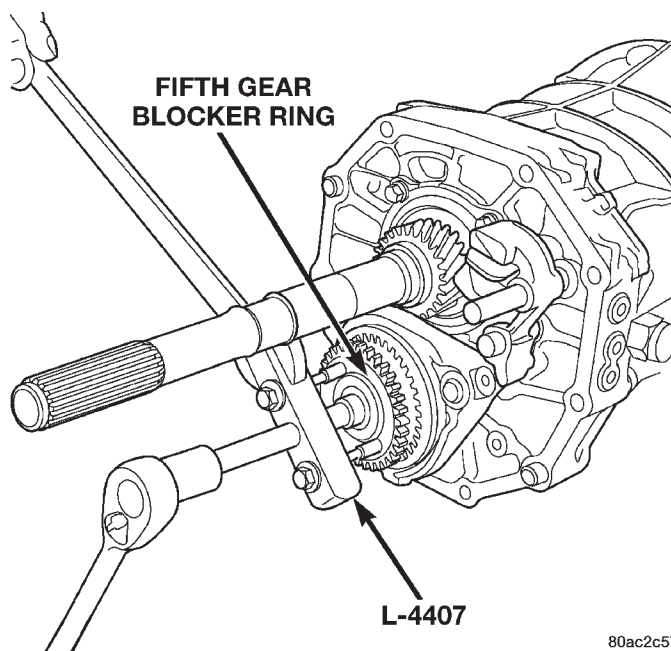

Fig. 56 Remove Fifth Gear Blocker Ring
(8) Remove fifth gear blocker ring from countershaft assembly with Puller L-4407 (Fig. 56).